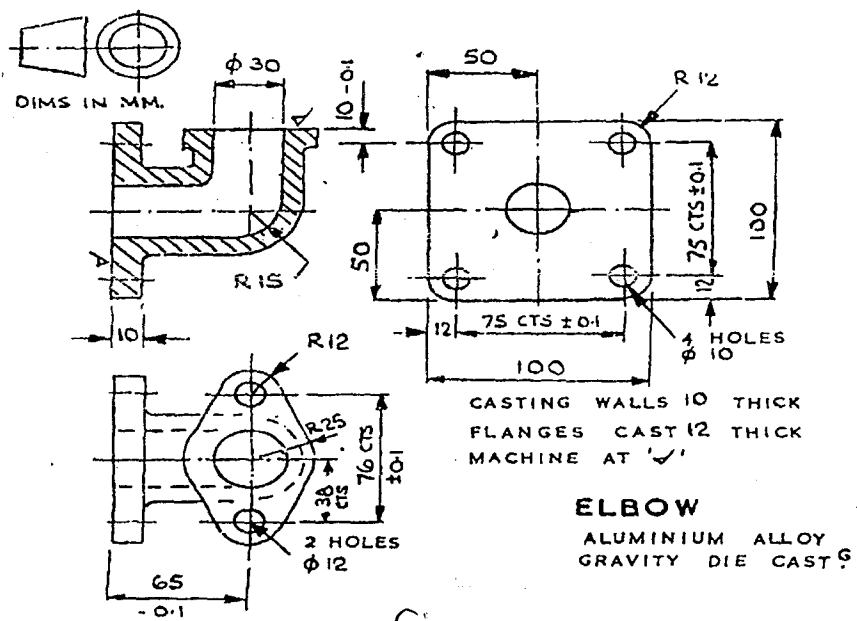

Fig. 2
Q.3 Design a milling fixture for use when machining the elongated flange of the elbow shown in fig. 2. This operation is done directly after drilling the four ϕ 10 mm holes. (10)
Q.4 Explain Blow Molding process and Transfer molding process with neat sketches. Also state its merits and demerits and application. (10)